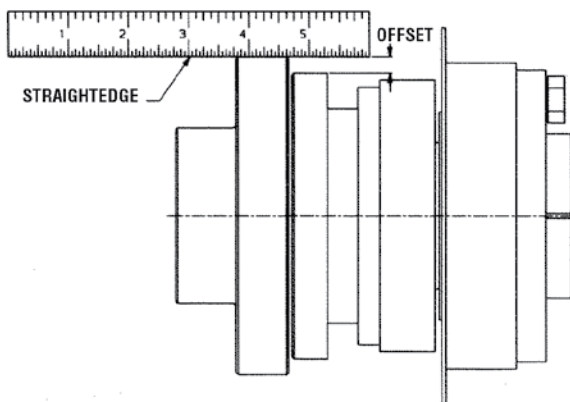

Figure 10 - Parallel "C" Coupling Alignment
- a. Place a straightedge across the coupling flange and adapter as shown in Figure 10.